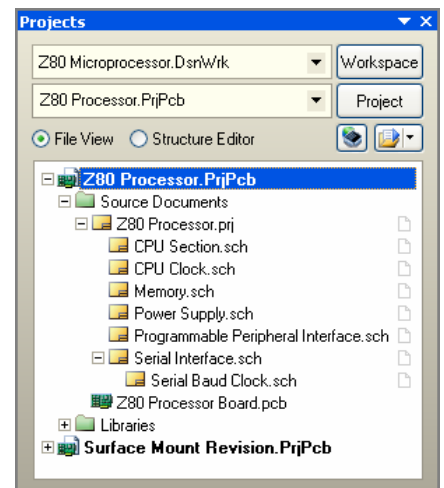

Figure 2. Imported example DDB. Note the name of the Design Workspace at the top. This will be the same as the original DDB.
6. Open the design workspace. When the created Design Workspace opens, it will display all the Altium Designer projects that were built. Figure 2 shows the result of importing the Z80 Microprocessor design that is included in the `Protel 99 SE\Examples` folder.